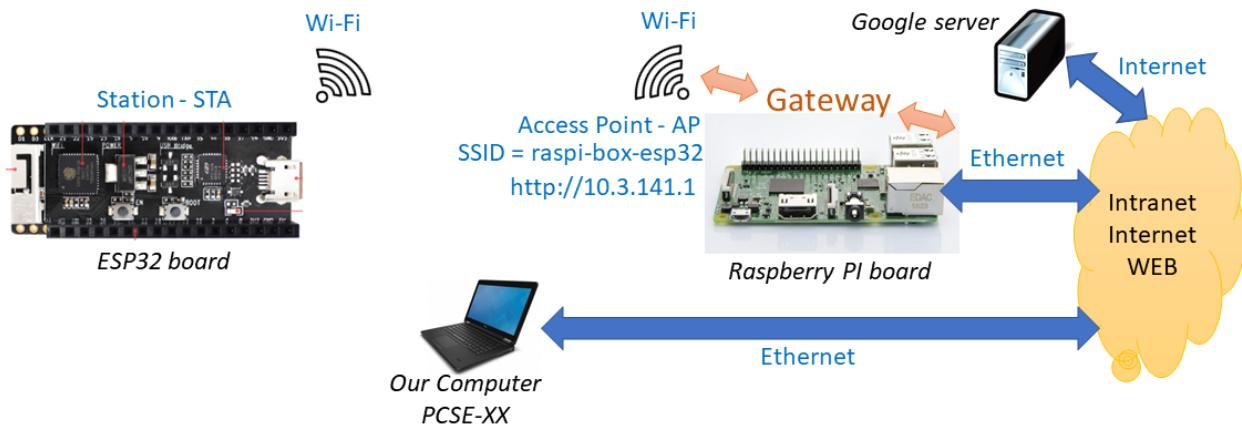

FIGURE 1.1 – Network architecture.
We want to connect our ESP32 board to access the internet, for example the Google site. To do this, we must connect our ESP32 board to an Access Point (AP) as we would do for a box at home. The Raspberry PI board will act as a box and also a Gateway. Indeed, the Raspberry PI is configured as a gateway between WIFI (Access Point mode) and the Ethernet connection connected to the Intranet and the Internet. However, it will be necessary to know the name of the Access Point and the password. The SSID (Service Set IDentifier) of the Raspberry PI board (Gateway) is *raspi-box-esp32*. The figure 1.1 summarizes the network architecture that we want to implement. It will also be possible to access our local computer if we know its IP address and if it is connected to the network.